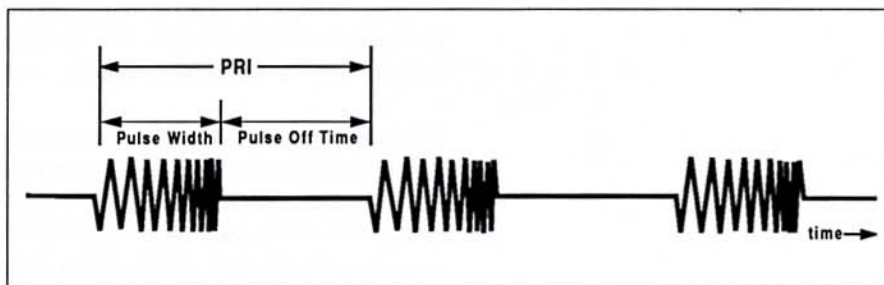

FIGURE 1. A Typical Pulsed Radar Signal
■ A typical pulsed radar signal is shown in Figure 1. The HP 5361A automatically measures:
- pulse width (PW)